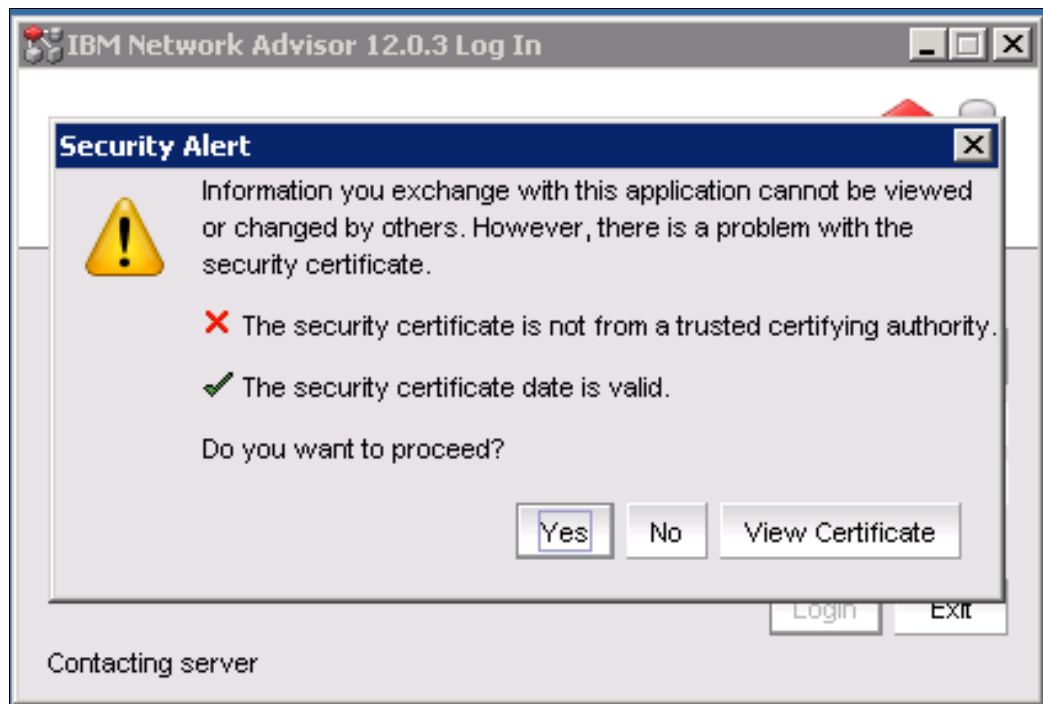

Figure 3-20 Security Alert
20. A Security Alert dialog box opens, as shown in Figure 3-20, which prompts you to permit the traffic by accepting the security settings.